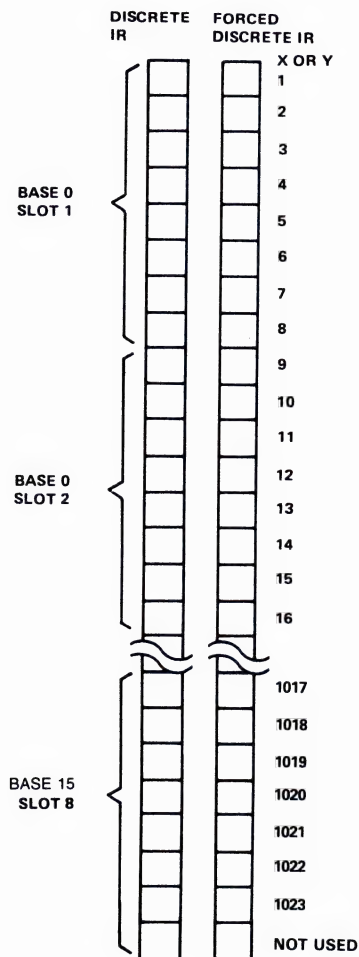

Figure 2-4 Default Discrete and Forced Image Registers
The Discrete Image Register (Figure 2-4) provides a single-bit storage location for the status of each discrete input (X) and discrete output (Y) in a program. Storage space is provided for the status of 1023 discrete I/O points. Inputs (Xs) and outputs (Ys) with the same number use the same discrete image register status bit. Unused discrete I/O points (points with no corresponding discrete I/O module), may be used as non-retentive control relays.
The Discrete Force Register (Figure 2-4) is the actual memory location that is responsible for executing the forcing or unforcing of each discrete input (X) and output (Y). The register provides single-bit storage for the force (forced or unforced) status of each discrete input and output. Storage space is provided for the force status of 1023 discrete points. Bear in mind that if you number your I/O points and use the same number for more than one point, if you force one point, you force all of the points that share that number. For information and descriptions of forcing and unforcing I/O points, refer to the 520/530/520C/530C PROGRAM DESIGN GUIDE.